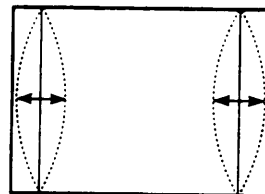

Fig 4.
- d: Adjust the E-W PARABOLA to obtain condition as in fig. 4.